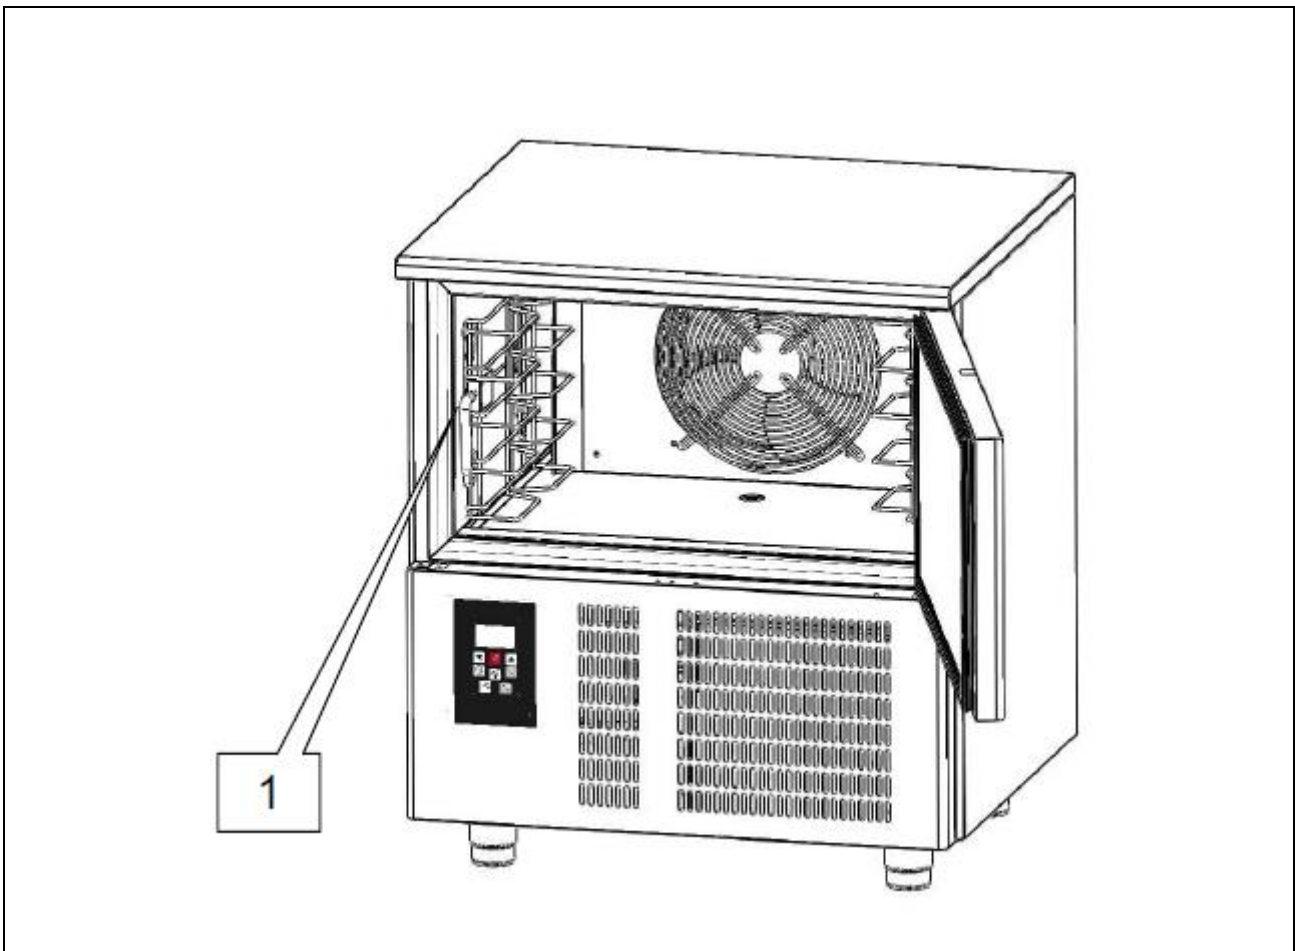

Fig. 10
The core probe (ref. 1 fig. 10) must always be cleaned before a new cycle so as to avoid “contaminating” the product in any way. Remove any residue using a sponge soaked in neutral detergent. Rinse with plenty of water and apply a sterilising product.